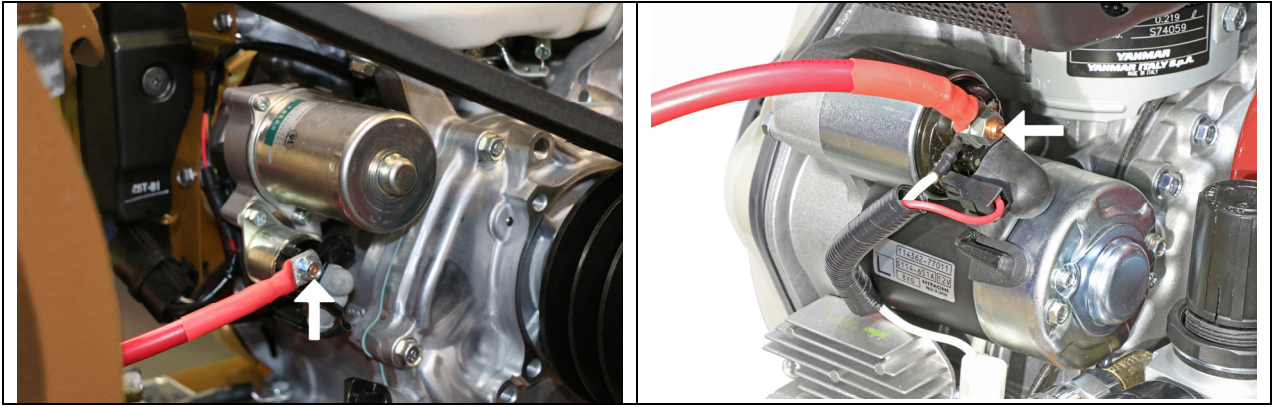

Figure 5-1 Battery Positive (+) Cable Connection to Starter Solenoid
- (a) Connect the battery positive (+) cable to the starter solenoid terminal as shown in Figure 5-1.